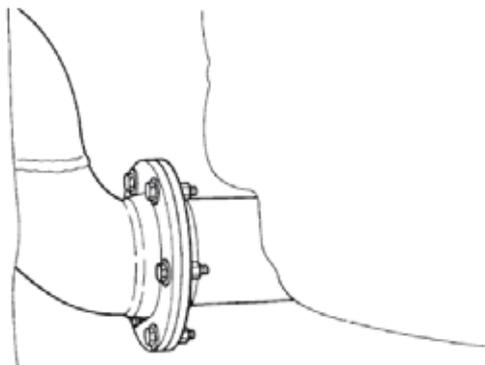

Figure 24 Outlet Pipe Joint
- m.** Remove the nuts and bolts joining the two sections of the third compartment outlet pipe together (Figure 24).